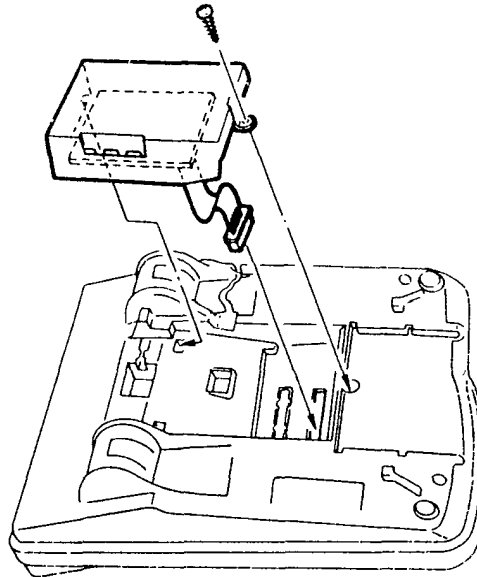

Figure 1-52 ADA (1)-W (BK) Unit or ADA (2)-W (BK) Unit Installation
4. Plug the connector labeled CN1, from the ADA (1)-W (BK) Unit or ADA (2)-W (BK) Unit, into the jack labeled CN4, on the Main Board. [Refer to Figure 1-52 - ADA (1)-W (BK) Unit or ADA (2)-W (BK) Unit Installation and Table 1-24 - ADA (1)-W (BK) Unit or ADA (2)-W (BK) Unit Cable Connection.]
5. Mount the ADA (1)-W (BK) Unit or ADA (2)-W (BK) Unit into the Multiline Terminal using the screw provided (component side down). [Refer to Figure 1-52 - ADA (1)-W (BK) Unit or ADA (2)-W (BK) Unit Installation.]